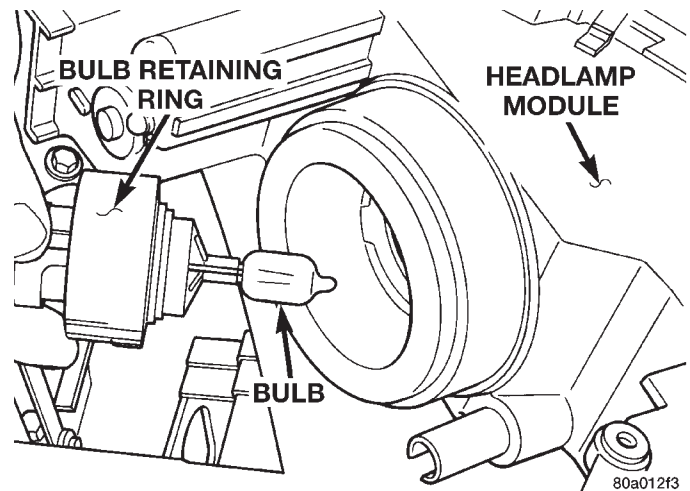

Fig. 1 Headlamp Bulb
- (1) Release hood latch and open hood.
- (2) Remove screws holding headlamp module to radiator closure panel.
- (3) Separate headlamp module from radiator closure panel.
- (4) Disengage wire connector from back of headlamp bulb.
- (5) Rotate retaining ring counterclockwise one quarter turn.
- (6) Separate retaining ring from headlamp module.
- (7) Pull bulb from headlamp module (Fig. 1).